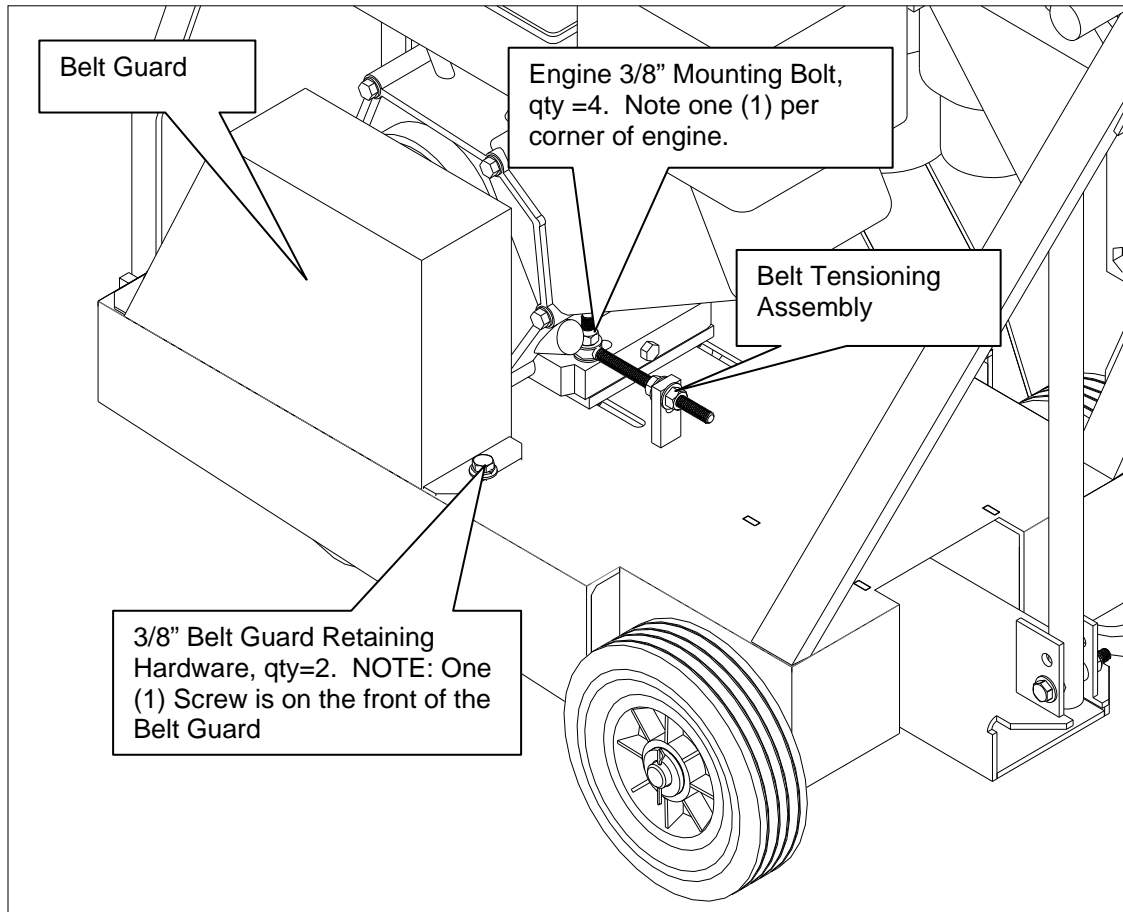

Figure: C13PE Belt Tensioning System
1. Review the locations of the C13PE Belt Tensioning system before proceeding. (See **Figure: C13PE Belt Tensioning System** on the previous page).
2. Remove the Belt Guard by loosening and removing the two (2) 3/8" Belt Guard Retaining Hardware sets.
4. Slightly loosen the four (4) 3/8" Engine Mounting Bolts. NOTE: The four 3/8" Engine Mounting Bolts will need to remain snug during the belt tensioning process. Not keeping the 3/8" Engine Mounting Bolts snug may allow the engine to twist in the mounting slots which may result in the pulleys becoming missed aligned.